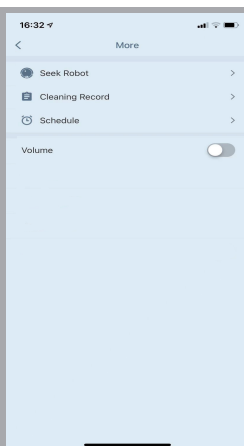

Fig. 19
- More functions are shown in the "**more**" menu, such as Schedule Setting, Find Robot and Cleaning Records, etc (Fig.19).